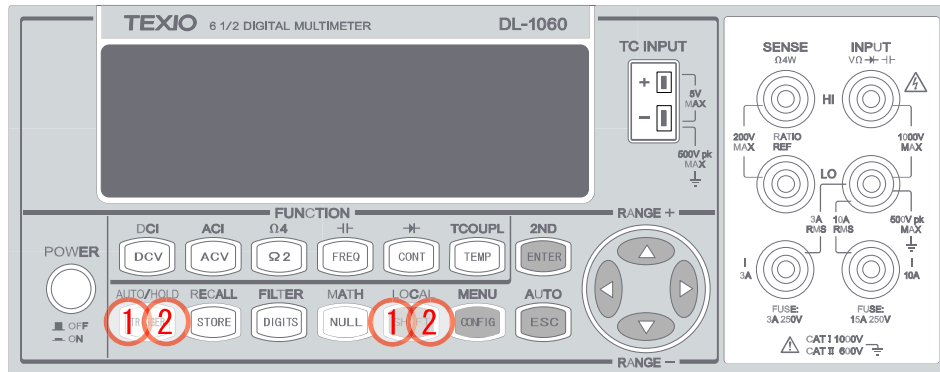

Figure 3-34
1. Press SHIFT + TRIGGER buttons. The HOLD annunciator will light up when HOLD feature is enabled as shown in **Figure 3-34**.